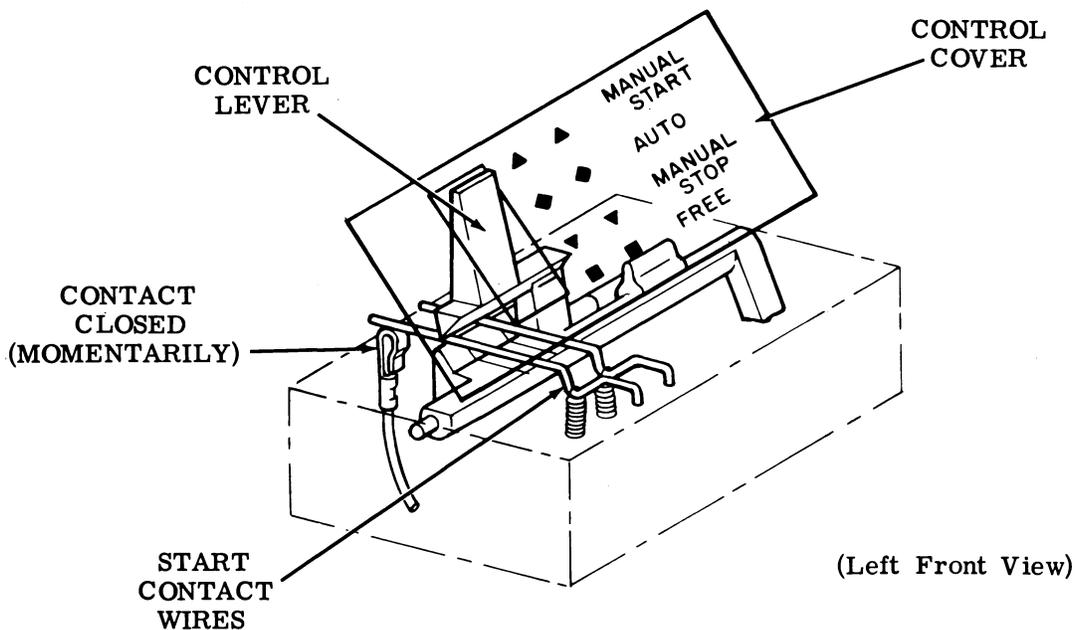

Figure 18 - MANUAL START Position
**A. Local Start (Figure 18)**